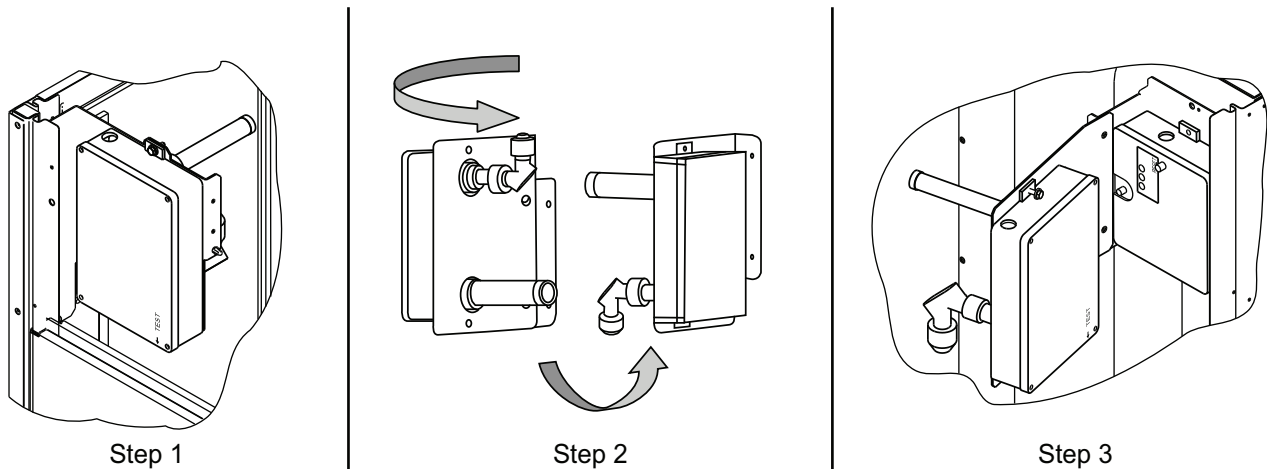

Fig. 54 — Completing Installation of Return Air Smoke Sensor
1. Unscrew the two screws holding the return-air smoke detector assembly. See Fig. 54, Step 1.
3. Turn the assembly 90 degrees and then rotate end to end. Make sure that the elbow fitting is pointing down. See Fig. 54, Step 2.
4. Screw the sensor and detector plate into its operating position using screws from Step 1. See Fig. 54, Step 3.